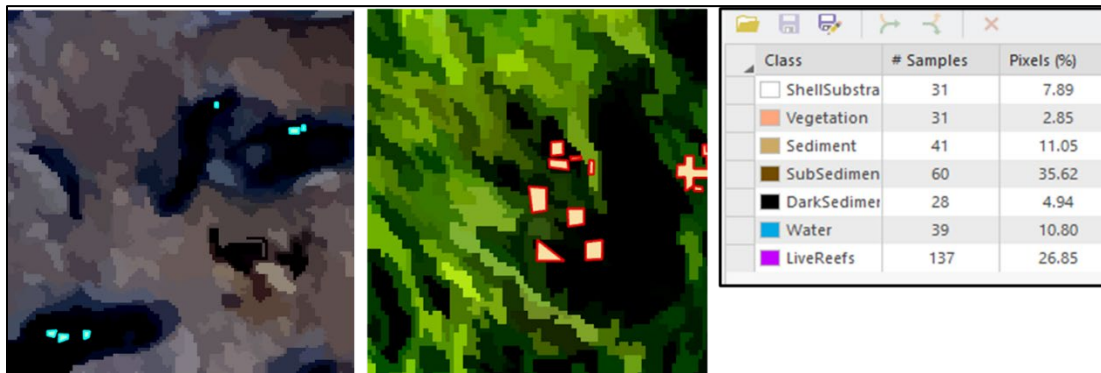

Figure S2. Example of training sample polygons for dark sediment pixels on mud areas (left) and in vegetation (right).
*It may be helpful to create a table of the different color pixels presented in the segmented image to distinguish the classes (refer to Figures S2 and S3 for examples). Doing this can define the classes and subclasses more accurately to avoid confusion or color overlap that may confuse the image classification algorithm.